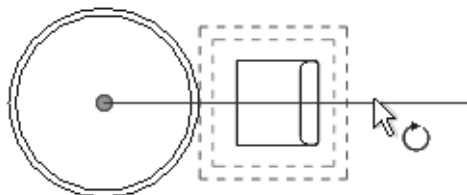

Figure 2–41
4. Drag  (Center of Rotation) or use **Place** to move the center of rotation to the appropriate location, as shown in Figure 2–41.